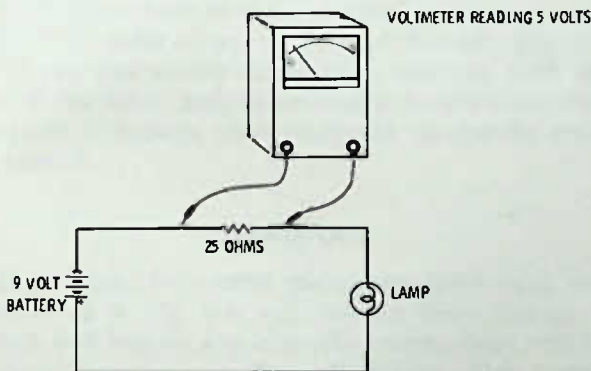

Fig. 1-27. Test circuit for Questions 24, 25, and 26.
24. In Fig. 1-27, the voltage measured across the lamp would be
25. In Fig. 1-27, how much current in milliamperes is flowing through the lamp?
26. In Fig. 1-27, the resistance of the lamp is